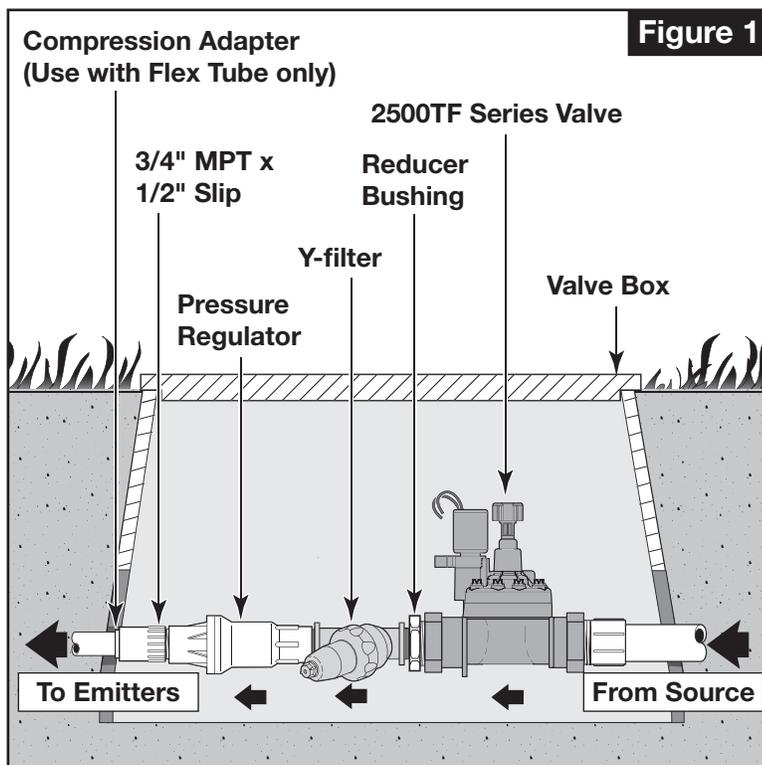

Figure 1
⚠ Important: Ensure the Y-filter, control valve and pressure regulator are installed in the correct flow orientation. Flow direction arrows are provided on each component. Refer to Figure 1.
1. Thread the Y-filter inlet into the valve outlet with the provided 1" x 3/4" NPT reducer bushing. Use PTFE tape on all threaded connections. Angle the Y-filter slightly downward as shown in **Figure 1**.
1. Thread the Y-filter inlet into the valve outlet. Use PTFE tape on all threaded connections. Angle the Y-filter slightly downward as shown in Figure 1.
1. Thread the Y-filter inlet into the valve outlet. Use PTFE tape on all threaded connections. Angle the Y-filter slightly downward as shown in **Figure 1**.